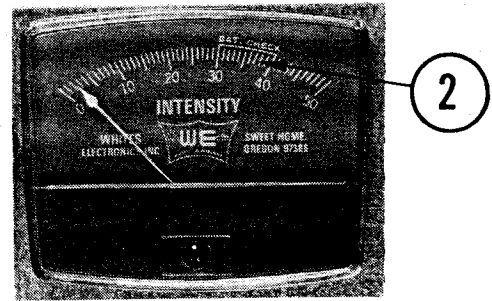

Figure 10
Condition of batteries may be tested at any time by turning Function Switch (1) to either the "9" or "12" positions. In both positions the meter needle (Fig. 10) should go well into the BAT CHECK zone (2). The "9" position tests the nine-volt (black) battery pack and the "12" position tests the 12-volt (white) battery pack. IF THE METER NEEDLE DOES NOT COME ALL THE WAY UP TO THE "BAT CHECK" ZONE WHEN THE COINMASTER DISCRIMINATOR IS FIRST ASSEMBLED, THEN AT LEAST ONE BATTERY IN THE PACK BEING TESTED IS PROBABLY INSTALLED BACKWARDS. In this case, remove the battery packs and repeat step V .A. If the batteries should ever fail to measure up after a long period of use, then they are probably running down. Remove the battery packs and test each battery separately as below.